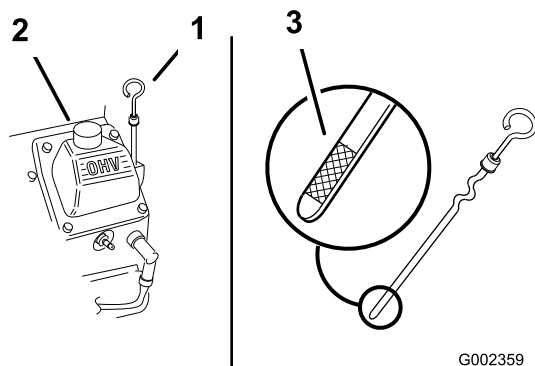

Figure 46
4. Clean around the oil dipstick (Figure 46) so that dirt cannot fall into the filler hole and damage the engine.
5. Remove the oil dipstick and wipe the end clean (Figure 46).
6. Slide the oil dipstick fully into the filler tube (Figure 46).
7. Slowly pour approximately 80% of the specified oil into the filler tube (Figure 46).